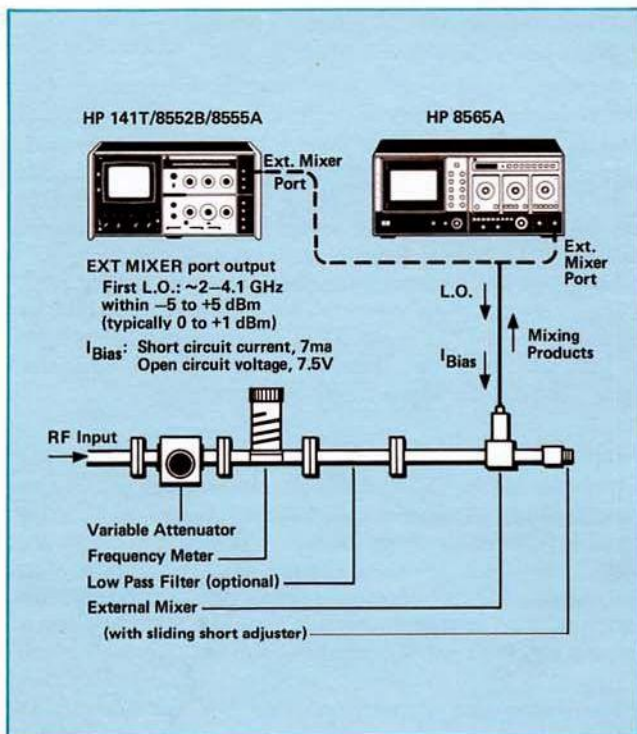

Figure 1. Harmonic Mixing Set-Up.
Referring to the set-up shown in Figure 1, when the spectrum analyzer is switched into one of its external mixer bands and an input signal (RF) is applied to the external mixer, three signals are present at the analyzer's EXT MIXER port: the analyzer's first local oscillator (LO), the mixing products, and the external mixer bias (I_{BIAS}).
In the setup shown in Figure 1, the frequency meter is used to measure the RF input signal's frequency. When the meter is tuned to the RF input frequency, the input signal's amplitude will be reduced at least 1 dB, and all responses associated with that input signal will be reduced by the
same amount. If more than one input signal is present at the external mixer input, the signal responses not associated with the frequency meter's tune frequency will remain unchanged. Thus, responses due to different RF input signals are easily identified with the frequency meter. Different input signals can be removed with waveguide filters such as the optional lowpass filter shown in Figure 1.
- A. INITIALIZE ANALYZER CONTROLS: Use the setup shown in Figure 1. Set the analyzer's frequency band to 10^+ (8565A = 22.9–40 GHz), the frequency span to FULL, and the resolution bandwidth to ≥ 300 kHz.